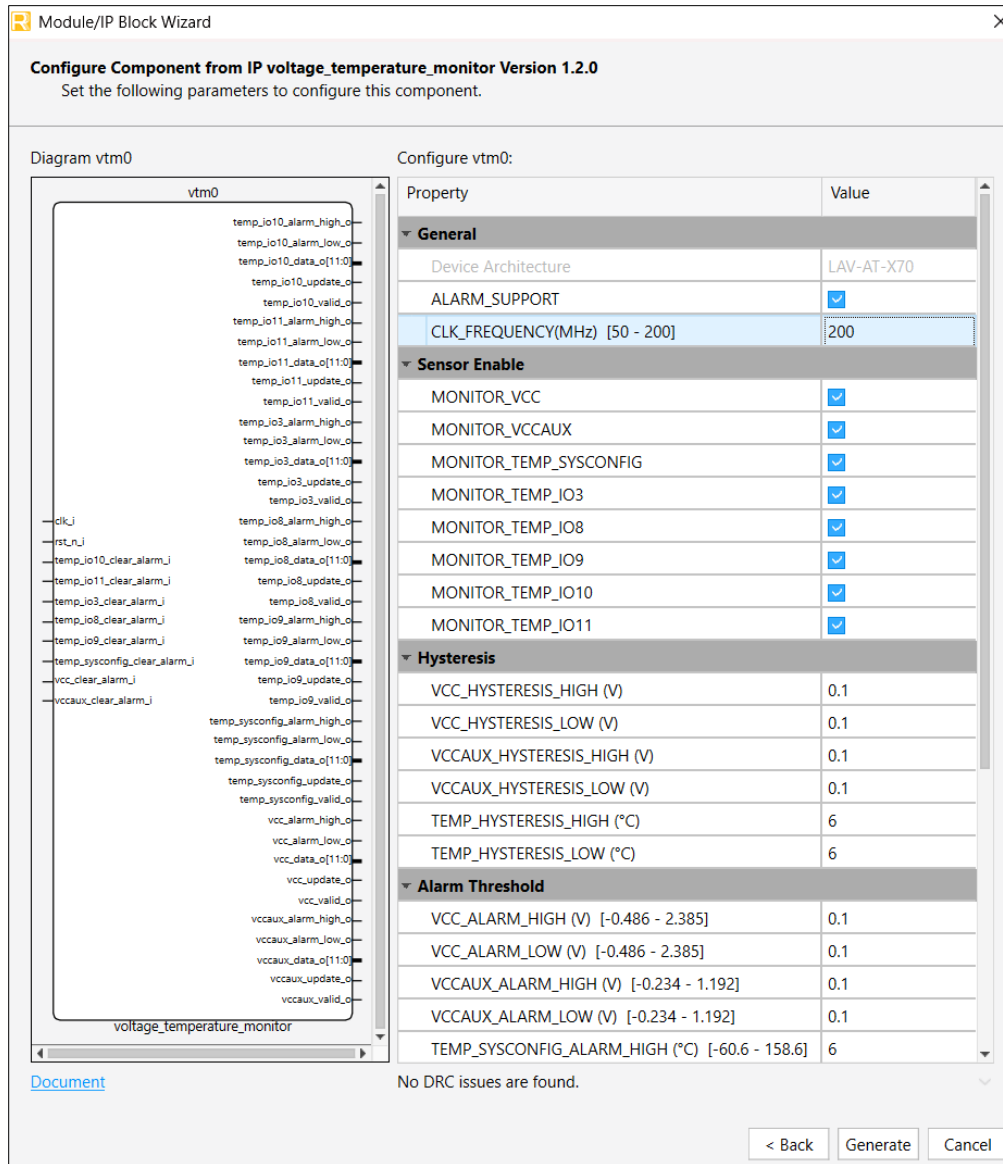

Figure 5.2. IP Configuration
3. In the next **Module/IP Block Wizard** window, customize the selected VTM IP using drop-down lists and check boxes. Figure 5.2 shows an example configuration of the VTM IP. For details on the configuration options, refer to the IP Parameter Description section.